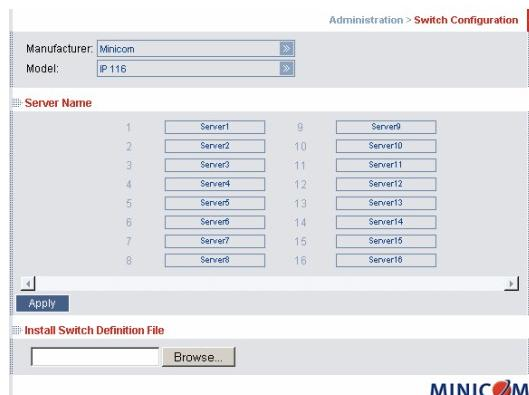

Figure 14 Switch Configuration
1. From the menu click **Switch Configuration**. The Switch Configuration window appears, see Figure 14.